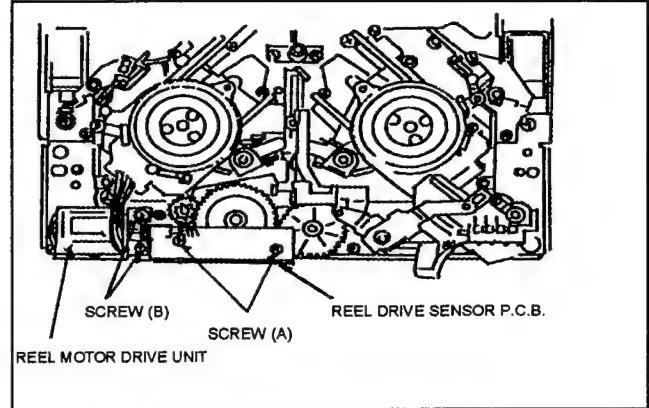

Fig. 4-16-1 Removal of Reel Drive Motor Unit
1. Remove the Mechanical Unit (Refer to item 2-1, Removal of Mechanical Unit).
3. Unscrew the 2 screws (A) and remove the Reel Drive Sensor P.C.Board as shown in Figure 4-16-1.
4. Unscrew the 2 screws (B) and remove the Reel Drive Motor Unit as shown in Figure 4-16-1.